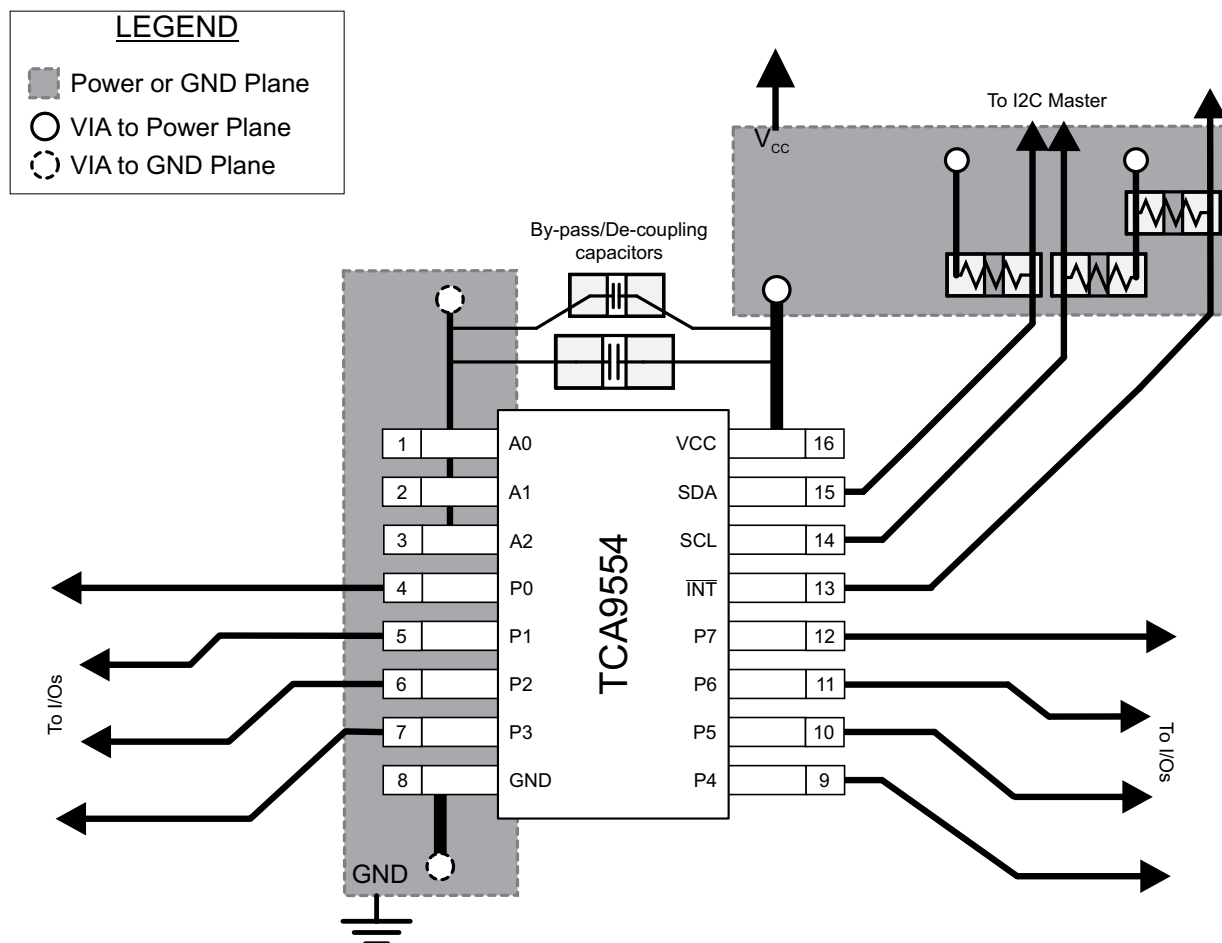

Figure 32. TCA9554 Layout
In all PCB layouts, it is a best practice to avoid right angles in signal traces, to fan out signal traces away from each other upon leaving the vicinity of an integrated circuit (IC), and to use thicker trace widths to carry higher amounts of current that commonly pass through power and ground traces. By-pass and de-coupling capacitors are commonly used to control the voltage on the VCC pin, using a larger capacitor to provide additional power in the event of a short power supply glitch and a smaller capacitor to filter out high-frequency ripple. These capacitors should be placed as close to the TCA9554 as possible. These best practices are shown in Figure 32.
For the layout example provided in Figure 32, it would be possible to fabricate a PCB with only 2 layers by using the top layer for signal routing and the bottom layer as a split plane for power (V_{CC}) and ground (GND). However, a 4 layer board is preferable for boards with higher density signal routing. On a 4 layer PCB, it is common to route signals on the top and bottom layer, dedicate one internal layer to a ground plane, and dedicate the other internal layer to a power plane. In a board layout using planes or split planes for power and ground, vias are placed directly next to the surface mount component pad which needs to attach to V_{CC} or GND and the via is connected electrically to the internal layer or the other side of the board. Vias are also used when a signal trace needs to be routed to the opposite side of the board, but this technique is not demonstrated in Figure 32.